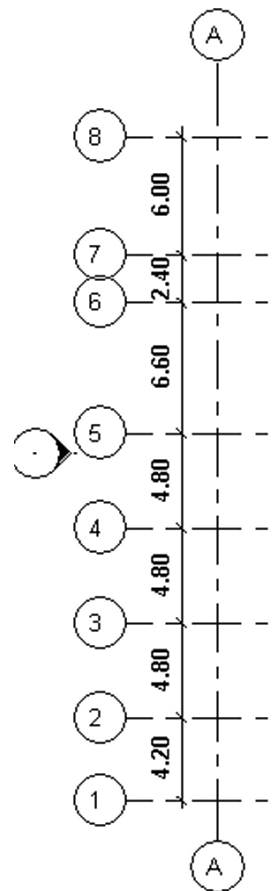

Fig. 1.14 – Horizontal Grid Lines
14. In this way draw other horizontal Grid lines at offset distances 4.8, 4.8, 4.8, 6.6, 2.4, 6.0 as shown in Fig. 1.14.